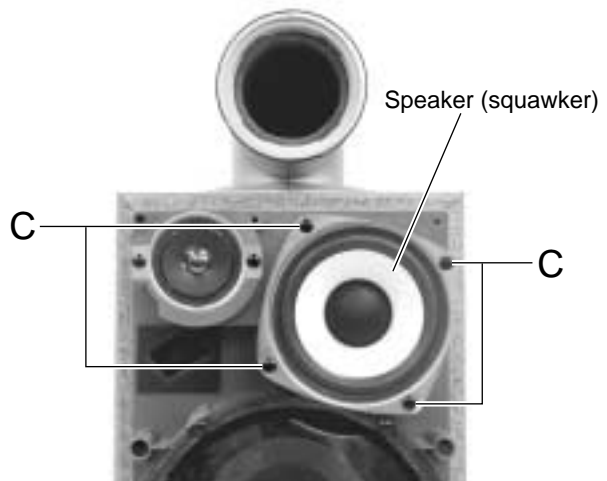

Fig.3
■ **Removing the speaker (squawker) (See Fig.3)**
6. Remove the screw **B** retaining the disc stopper (See Fig.3).